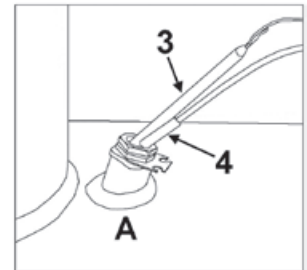

Fig. 15 - Well A
**IT IS MANDATORY** to insert in the well "A" (Fig. 15) the temperature probe "4" and the safety thermostat bulb "3".